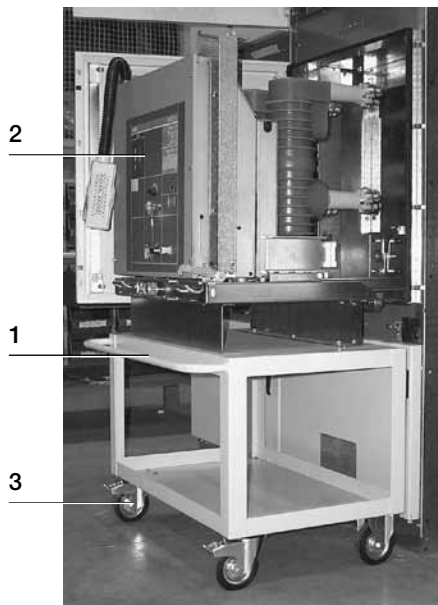

Fig. 13a
- unlock the wheels (3) (fig. 13a), lift the hooking bracket and remove the truck from the switchboard.